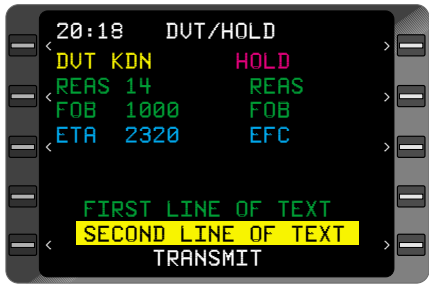

Figure 8-32
- ENTER** Key - DEPRESS. If the field is blank the cursor will move to **TRANSMIT**. Otherwise the cursor will move to the second line of free text. See Figure 8-32.